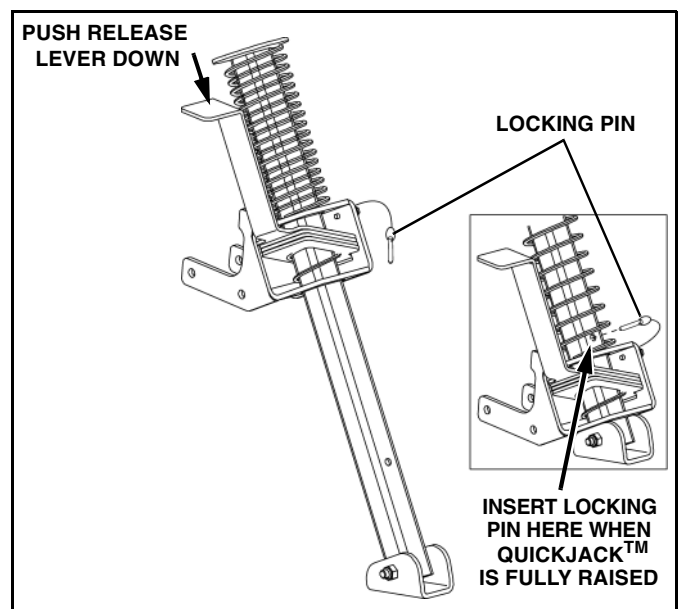

Figure 1-21
26. Raise QuickJack™ foot by pushing down on its release lever. Insert the locking pin in the QuickJack™ tube to prevent the jack from dropping during transport or plowing operations. (See Figure 1-21).